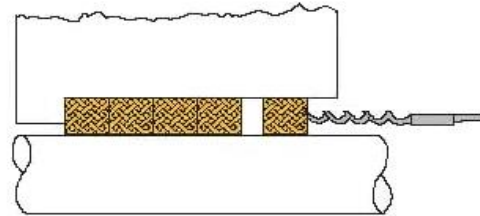

Figure 6. Removing Packing with Hook
5. Refer to Figure 6; remove all old packing rings (13) by using the proper size packing removal hook. The lantern ring (29) will remain on the shaft (6) and should be slid near the slinger (40).
3. If stationary element of mechanical seal (90) is to be replaced, clean, dry, and lubricate gland (17). Lubricate stationary element of mechanical seal with suitable lubricant. Insert stationary element of mechanical seal into gland.
4. Install gland (17) on shaft (6), slide back towards slinger (40).
5. Install casing (1) to bearing frame (19) with bolt (800C) or adaptor to motor (200) with bolt (*800D).
6. Lubricate outside of shaft sleeve (14) to facilitate mounting of mechanical seal (90). Install mechanical seal rotating elements on shaft sleeve.
7. Coat shaft sleeve (14) bore with DOW 111 and install shaft sleeve over O-ring (700D) onto shaft (6).
8. Slide gland (17) with stationary elements of mechanical seal (90) onto studs (820) and secure finger tight with gland hex nuts (830) and washers (850). As applicable, ensure tap flush lines in gland (17) is positioned so flush lines can be connected.
If your pump is equipped with an enclosed impeller, it may have an optional, replaceable wear rings (7) in the suction cover (9) or back cover (11). If your pump is equipped with the optional wear rings (7), use the following instructions, Table 8 and Figure 6 for wear ring replacement.